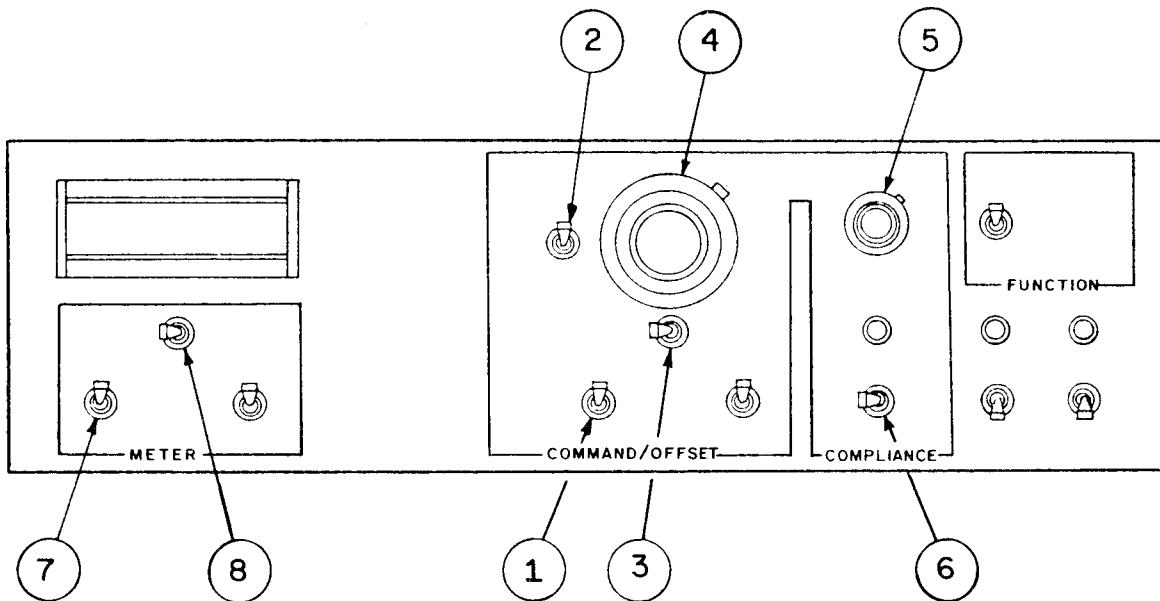

Figure 41. Example of Front Panel Settings
e. To perform a routine operation in the SUPPLY mode, given a random value of + 500 V, set the controls as follows (see Figure 41):